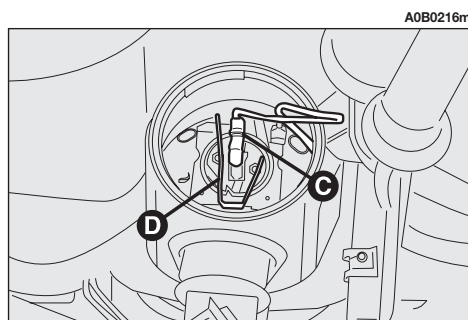

fig. 34
- Withdraw the supply cable terminal (**C-fig. 34**).
- Release the bulb stopper (**D-fig. 34**) and remove the bulb.
- Fit a new bulb making the tabs of the metallic part coincide with the grooves in the lamp lens and hook the bulb stopper (**D-fig. 34**).
- Re-connect the supply cable terminal (**C-fig. 34**).